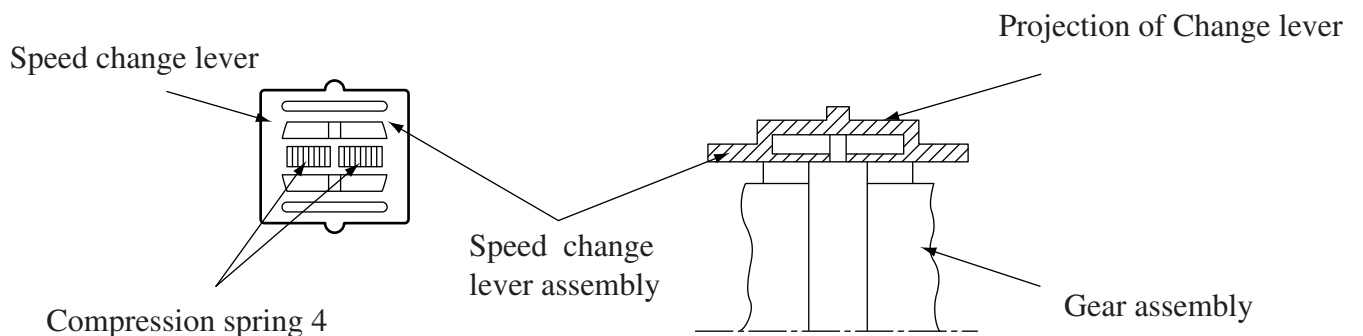

Figure 3
- 2) Being careful that Compression spring 4 may not comes out , install Speed change lever assembly in the projection of Change lever as shown in Figure 3.